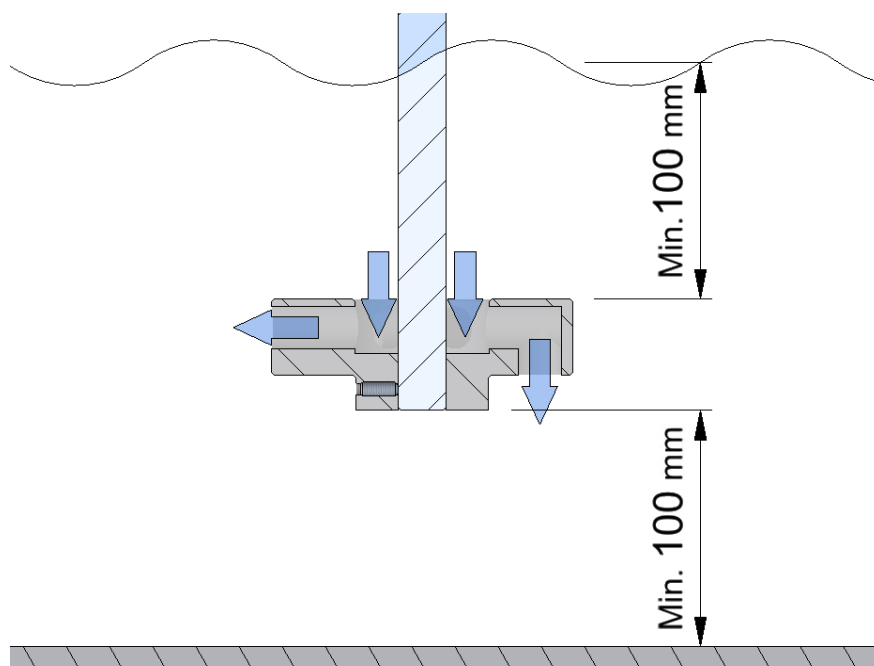
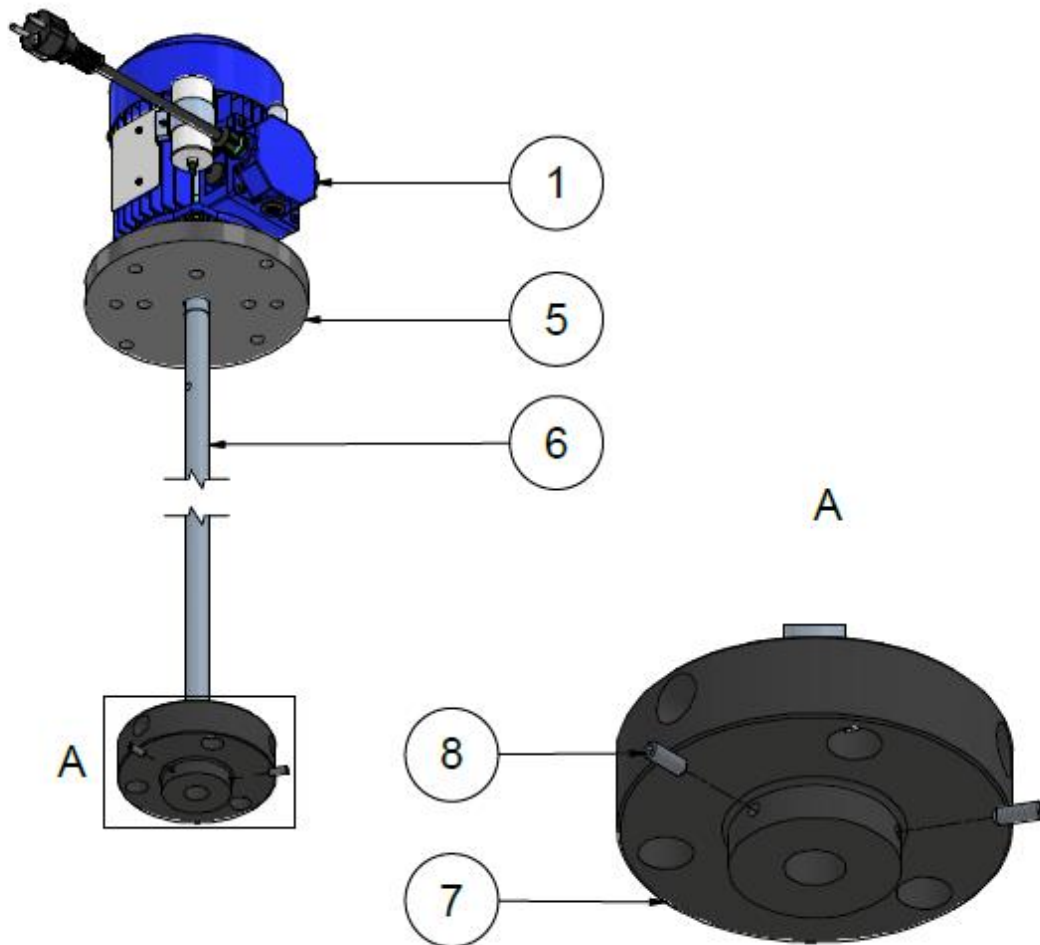

Figure 3 Position of the mixing disc
Figure 4 Assembly of the Enmix light
The rotation of the mixer shaft and the mixing disc sets the liquid in the reservoir in motion. The mixing disc takes in the liquid from above and then sends the liquid downwards and to the side via the channels in the mixing disc. In the disc there are 3 channels towards the bottom of the disc and 3 channels directly to the side of the mixing disc. This causes the liquid to move as shown in Figure 3. The standard direction of rotation of the mixing disc is clockwise (viewed from above).
the numbers between parentheses referring to the numbers and parts in Figure 4.
- Measure the depth. from the surface where the mounting plate (5) is assembled to, to the bottom of the reservoir.
- Shorten the shaft (6) if necessary and ensure that the mixing disc (7) is at least 100 mm above the bottom of the fluid reservoir.
- The shaft (6) can be shortened using a hacksaw or cutting disc.
- Insert the shaft (6) through the opening in the mixing disc (7).
- Please note that the suction side is facing to the top (see Figure 4).
- Fix the mixing disc (7) to the shaft (6) using two stainless steel set screws m6x16 (8).
- Attach the mounting plate (5) to the reservoir or a structure above this.
- see Figure 3
- Assemble the mixing disc following Figure 3 and Figure 4. If the assembly of the mixing disc is done in the wrong way, the fluid can be sprayed upwards. This could create dangerous situations.